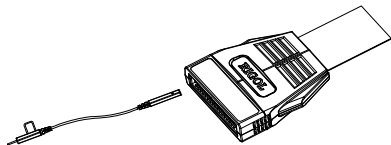

Figure 1
- ◆ Method 1: users can connect the signals under test through the probe leads separately. You can easily identify the corresponding channel of each signal by the channel label on the probe leads and the label of the probe input, as shown in Figure 1.